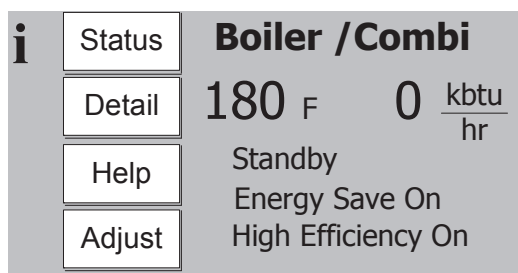
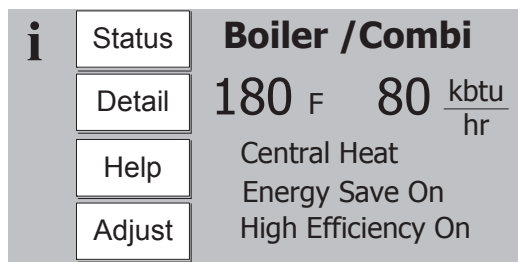

Figure 12.2a: Home Screen at Power-Up (No Call for Heat)
Figure 12.2b: Home Screen on Heat Demand
11. Start the boiler using the lighting instructions on page 100. With the boiler powered up, and with no call for heat, the display should look like Figure 12.2a. Once a call for heat is present, it will look like Figure 12.2b.